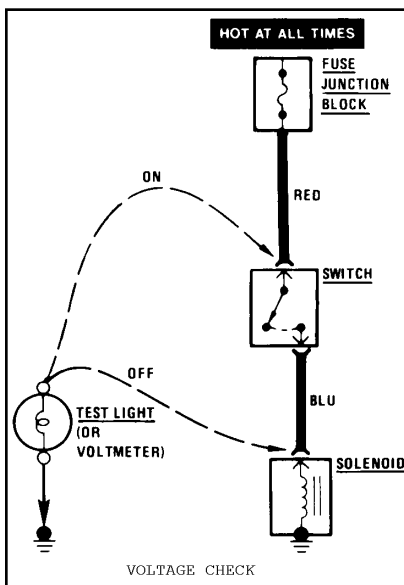

Figure 9
3. If the test light glows, there is voltage present. If you are using a voltmeter, note the voltage reading. It should be within one volt of measured battery voltage. A loss of more than one-volt indicates a problem. See **Figure 9**.